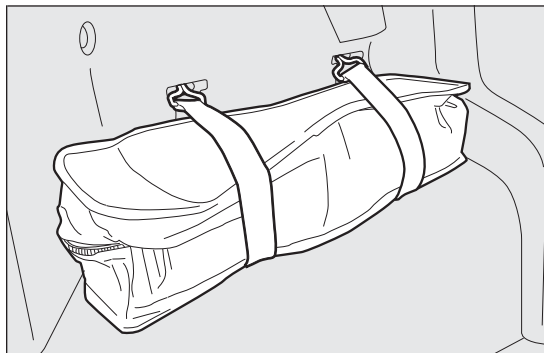

fig. 116
- ☐ open the tailgate, take the tool bag fig. 116 located on the left of the boot by releasing the elastic straps and take to the wheel to be replaced;